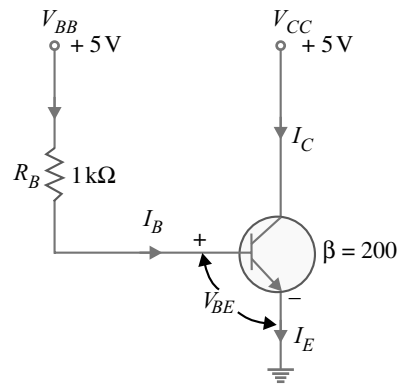

Fig. 6.68
**Example 6.47.** For the circuit shown in Fig. 6.68, find the transistor power dissipation. Assume that  $\beta = 200$ .